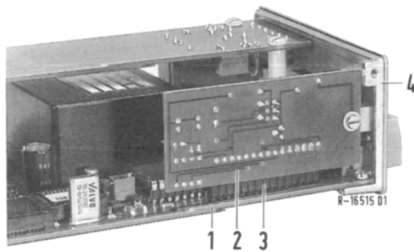

Fig. 17 Position of the display control card
- Fit the display control card (2) into the connector strip (3) (Fig. 17).